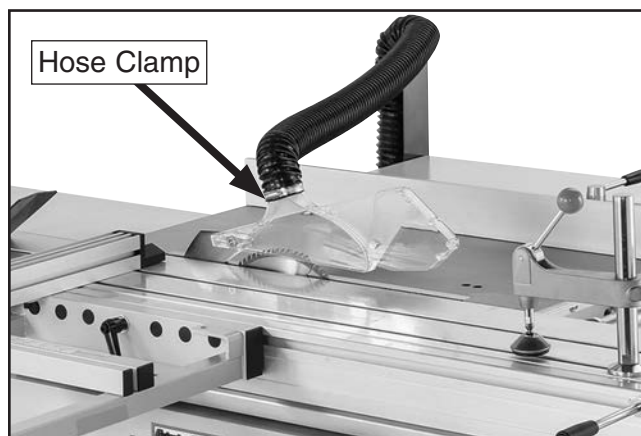

Figure 56. Blade guard and 2½" dust hose attached.
2. Connect 2½" dust hose to blade guard with hose clamp, as shown in **Figure 56**.